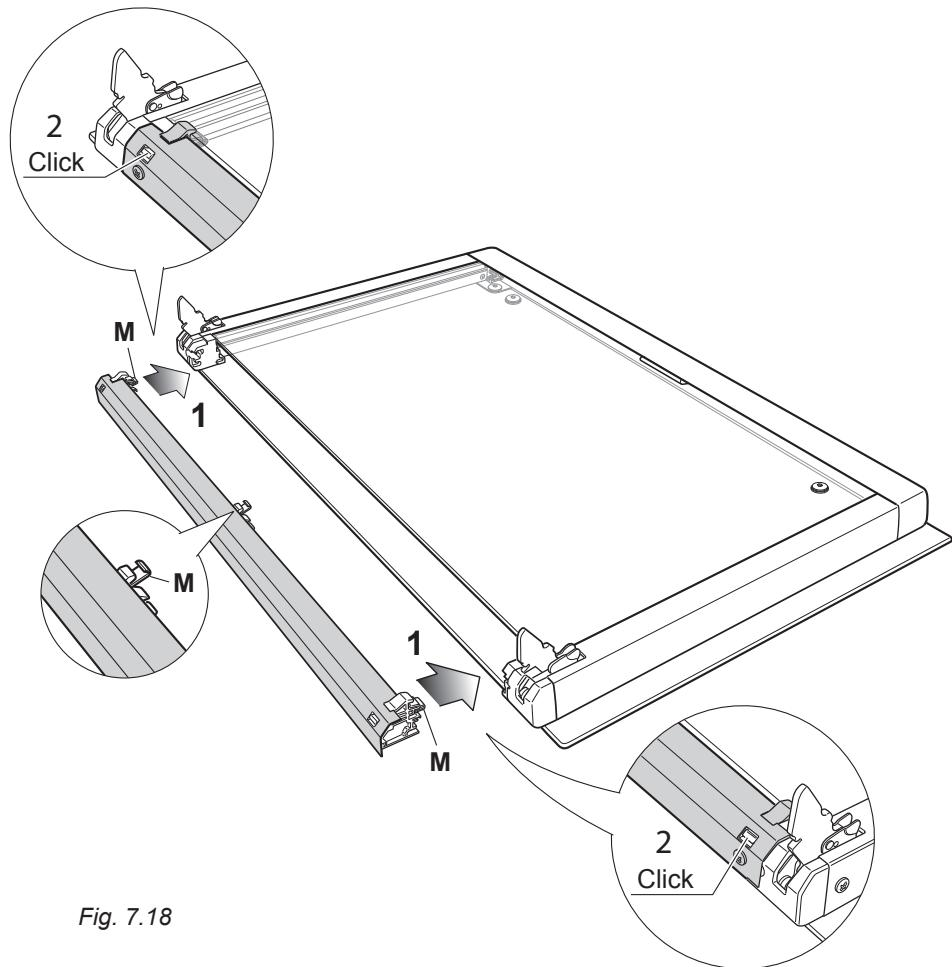

Fig. 7.18
1. Position the glass retainer, as shown in the figure 7.18. It should sit on the bottom edge of the outer glass. Check that the clamps "M" are not deformed or damaged.